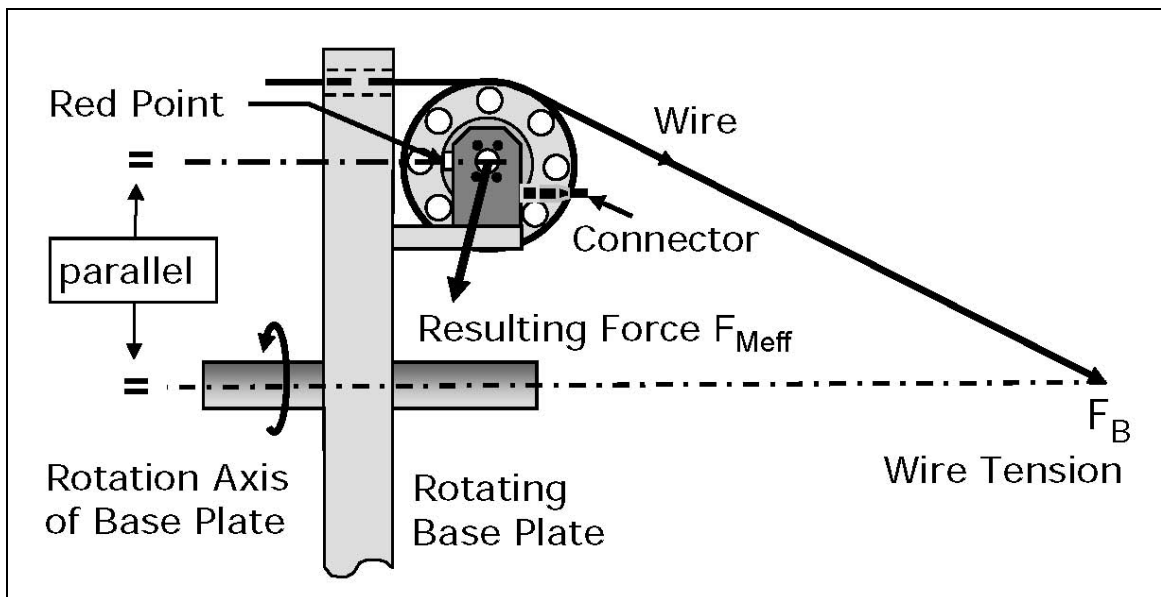

Fig. 3: RMGZ Red Point alignment on rotating machine parts
*In rotating applications the force measuring sensors are mounted such that centrifugal forces are compensated. If using FMS RMGZ sensors, this can be achieved by turning the Red Point parallel to the rotation axis and in direction of the positive force component (refer to Fig. 3).*